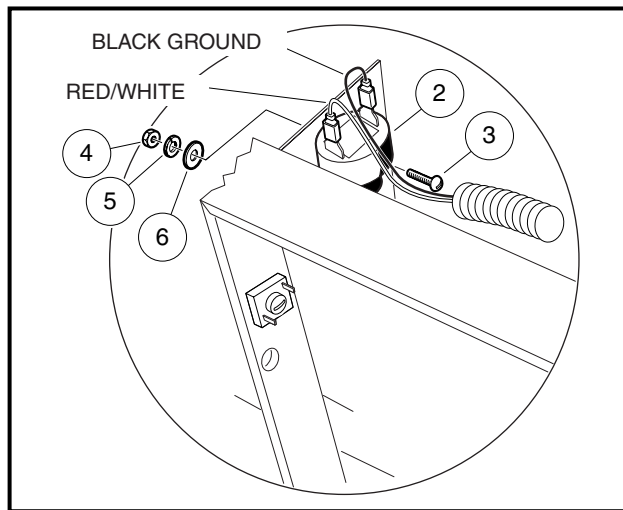

Figure 12-23 Front Reverse Warning Buzzer
4. Disconnect the wires from the reverse warning buzzer (2) (Figure 12-23, Page 12-19).
5. Remove the screw (3), nut (4), flat washer (6), and lock washer (5) securing the buzzer to the vertical frame support.
1. Install the screw (3) through the buzzer (2) bracket tab and frame, secure with hardware, and tighten to 14 in-lb (1.6 N·m) (**Figure 12-23, Page 12-19**). **See following NOTE.**